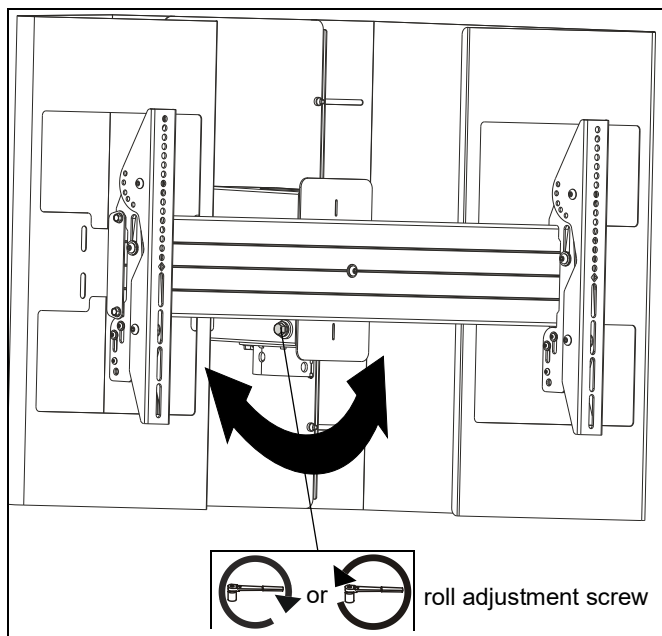

Figure 11
1. Adjust roll adjustment screw to change roll position. The roll may be adjusted 3° in either direction. (See Figure 11)